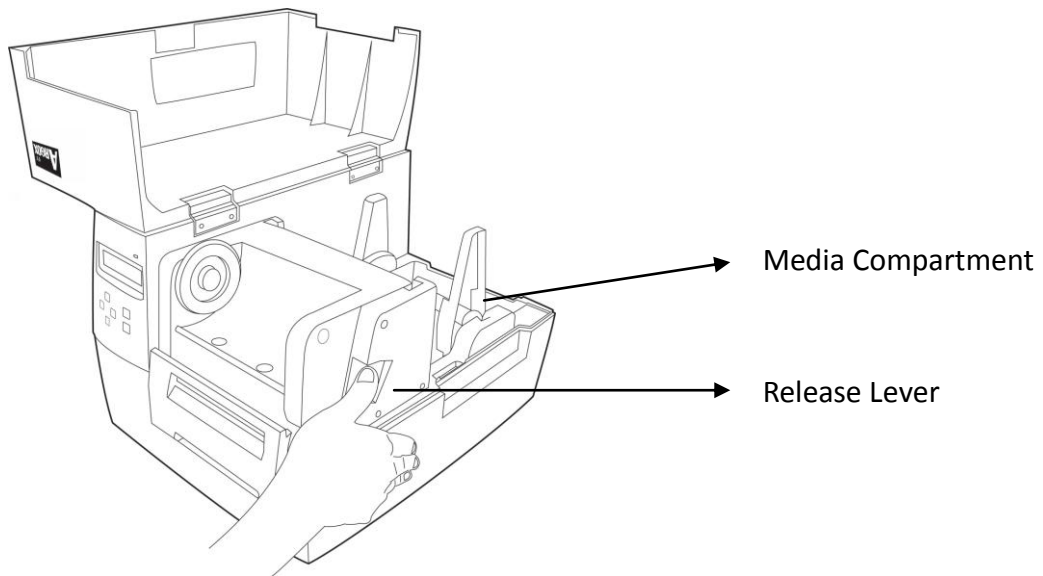

Figure 2
2. Unlatch the print head module by pushing the release lever on the right side toward the rear. (Figures 2 & 3)